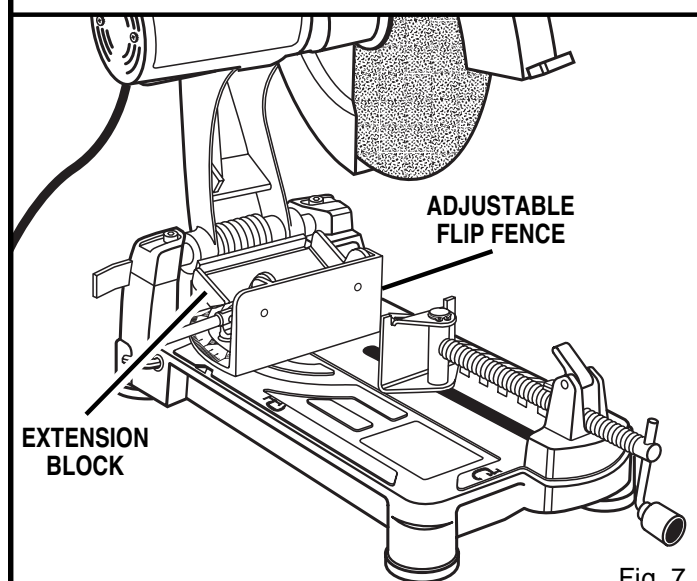

Fig. 7
See Figures 7 and 8.
- To increase the width of cut of your cut-off machine, flip the extension block up and back as shown in figure 7. This position is good for cutting thin and wide pieces of stock, such as flat or angled stock.